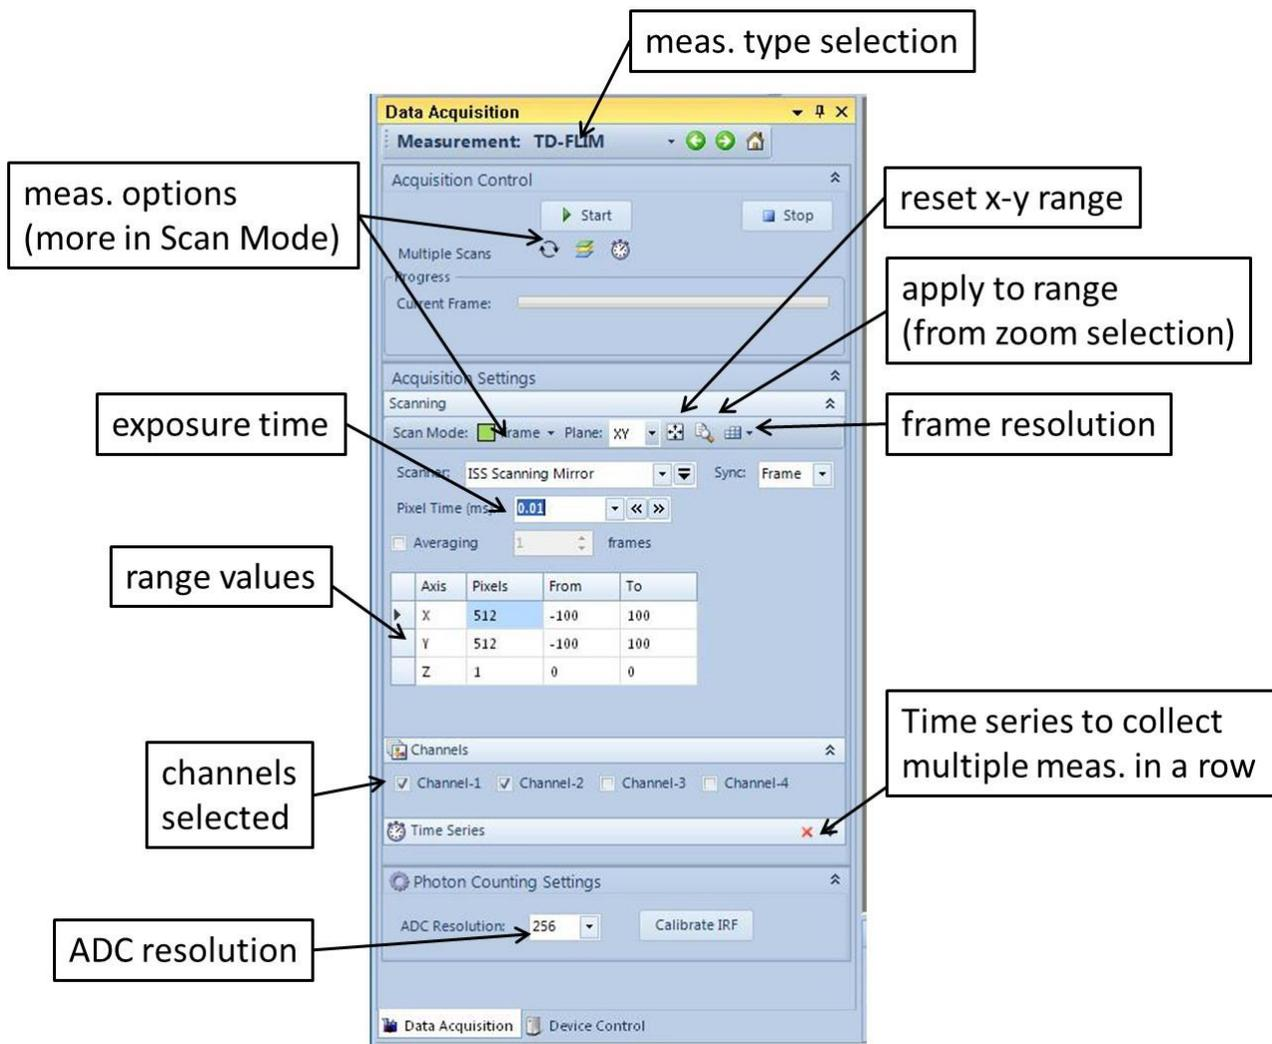

Fig. 5: TD-FLIM
5. Data acquisition mode: TD-FLIM workspace – time-dependent fluorescence lifetime imaging (**Fig.5**):
8. Zoom in by right-clicking \rightarrow zoom \rightarrow square selection. Use 'apply to range' button (Fig.5) to declare the new image range and take another picture. Adjust resolution as needed